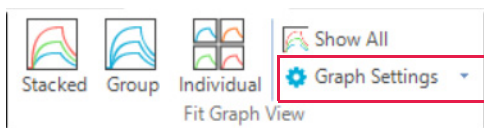

Figure 10-11: Selecting the Group View
- To view data for multiple sample plate wells, press and hold **Ctrl**, then select the wells in the sample plate or rows in the table you want to view (Figure 10-11). The wells you selected highlights in green on the Standard Curve, and only the wells selected display in the X-Y graph.
- To view graphs organized into groups according to sample attributes or results category, click the first icon in the Graph View section of the icon bar and select **Group Graphs** (Figure 10-11). This is a useful feature when you're working with large data sets.
- To view graphs grouped by specific options, click **Graph Settings** in the Fit Graph View section (Figure 10-11).